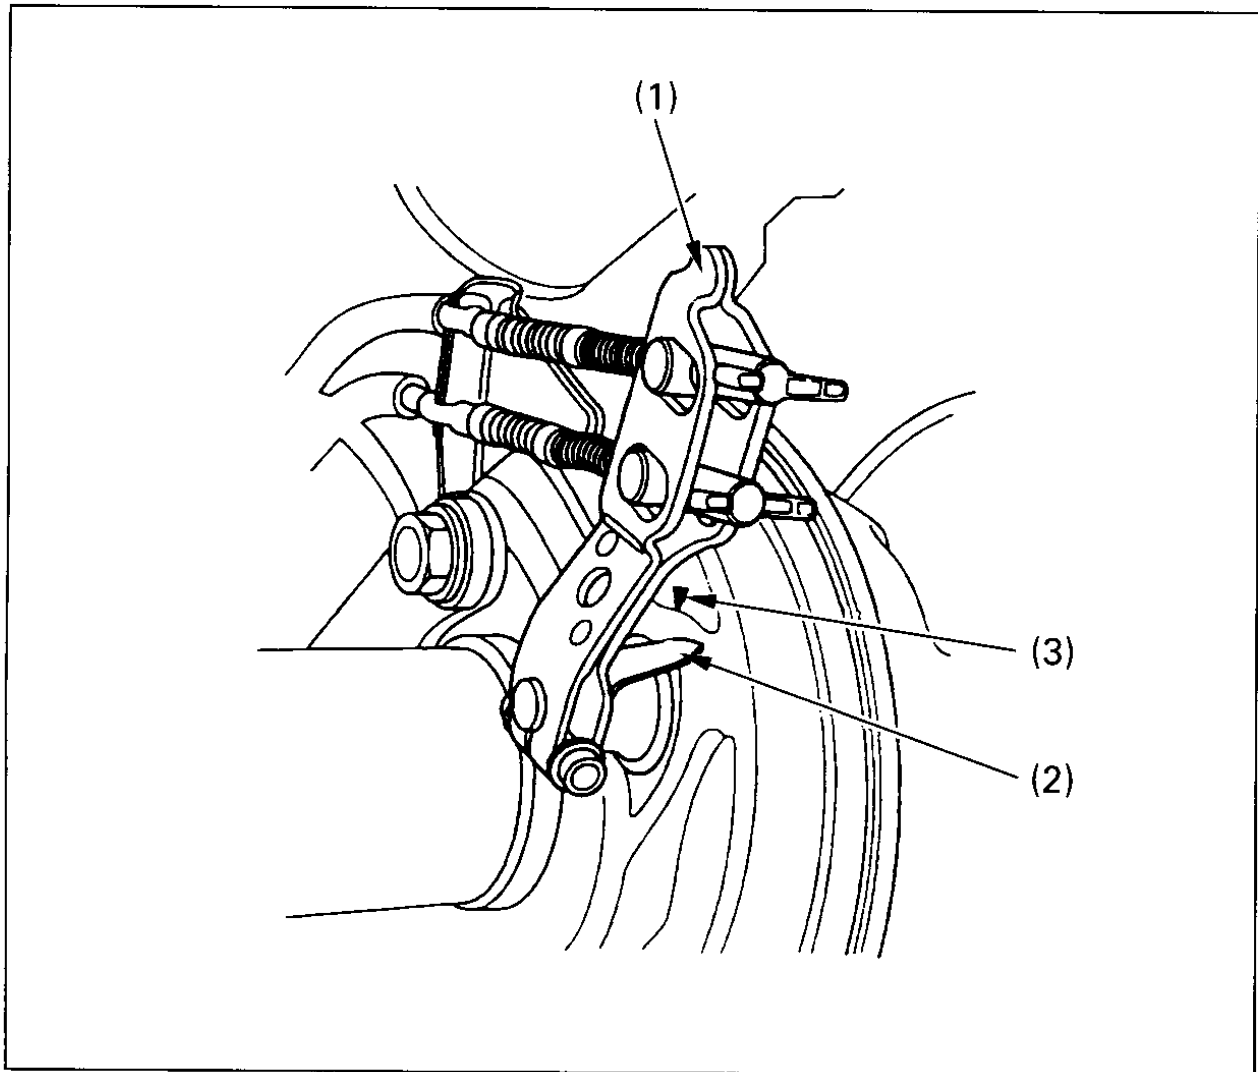

Fig. 4-23 (1) Brake arm
When the brake is applied, an arrow (2) attached to the brake arm (1) moves toward a reference mark (3) on the brake panel (see Fig. 4-23).